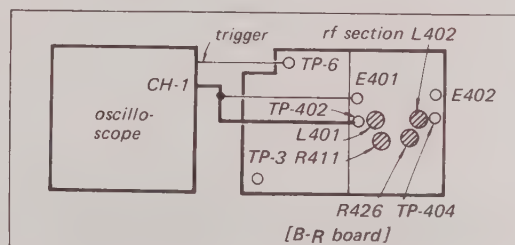

Fig. 8-3. Playback equalization adjustment test setup
1. Connect the scope to TP-402 on the B-R (R-F) board. See Fig. 8-3.
5. Connect the scope to TP-404 on the B-R (R-F) board. See Fig. 8-3.